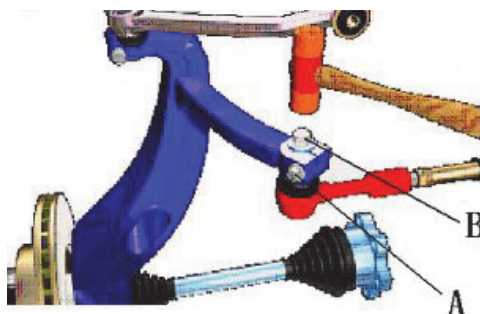

Fig. 1-24 Toe-in Constant Value Adjustment Method
1.7.2.4 Toe-in constant value adjustment method (Fig. 1-24)